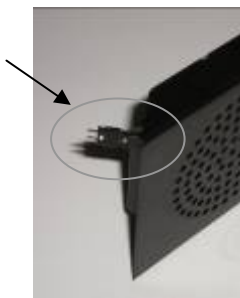

Figure 1
- a. Remove the pin covers (figure 1)